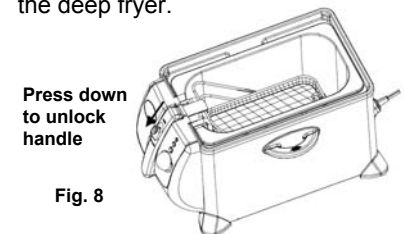
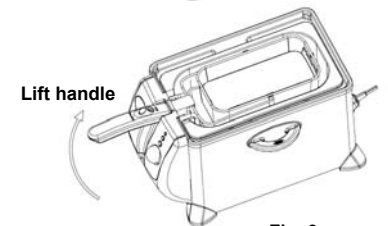

Fig. 8
Fig. 9
- Depress the auto-lift button to unlock the basket handle, lift the basket up and remove from deep fryer before placing food to be fried into the fryer basket. (Fig. 8 & Fig. 9)